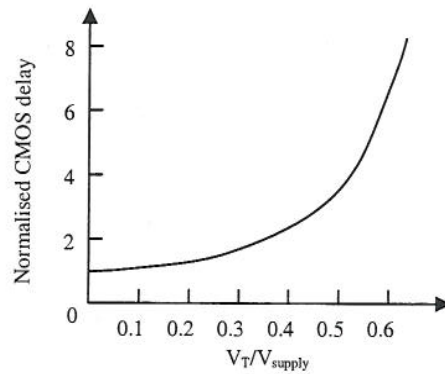

Figure 5: Gate delay/stage of a 1.5V CMOS inverter versus the threshold voltage-supply voltage ratio.
Given fig.5 and your answer in b), explain why there is little performance to be gained by scaling the supply voltage below 1V. [4]
c) From b) we know that if we reduce the threshold voltage, the off-currents will increase. This will limit the minimum value for the threshold voltage. If we would decrease the supply voltage whilst having to keep  $V_T$  at a minimum but non-zero value, we would limit the gate voltage swing and thus the gate overdrive  $V_{GS}-V_T$  degrading performance. From fig.5 we also see that the gate delay increases rapidly when the ratio  $V_T/V_{supply}$  increases leading to no gain in performance via further downscaling of  $V_{supply}$ . [4]